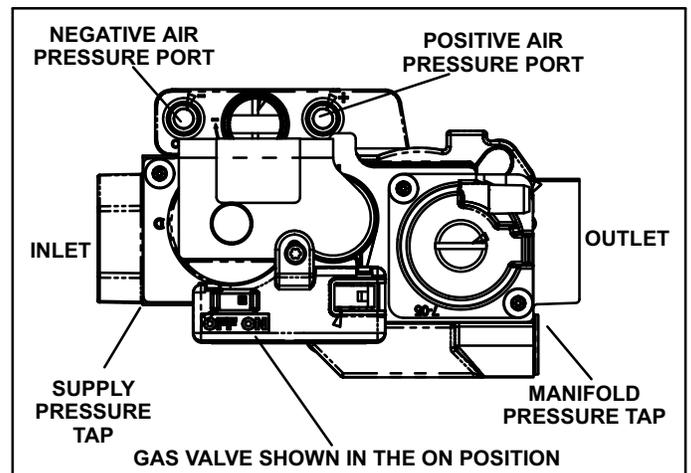

FIGURE 46
Gas Valve Operation (Figure 46)
- 6 - Move the gas valve switch to the **OFF** position. See figure 46.
- 8 - Move gas valve switch to the **ON** position. See figure 46. Do not force.
When testing supply gas pressure, connect test gauge to supply pressure tap on the gas valve. See figure 46. Check gas line pressure with unit firing at maximum rate. Low pressure may result in erratic operation or underfire. High pressure can result in permanent damage to gas valve or overfire. See table 29 for operating pressure at unit gas connection (line).